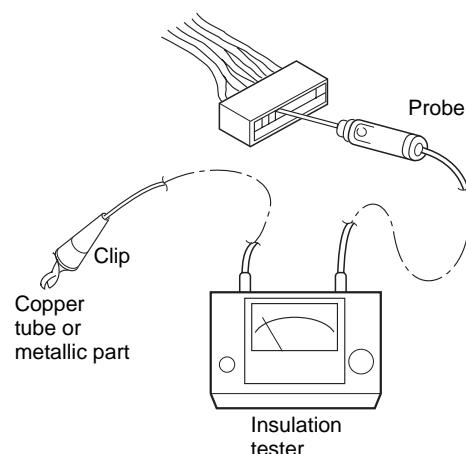

Fig. 27
(2) Measurement of Insulation Resistance for Electrical parts
- Disconnect the connector of the desired electric part from terminal plate, P.C.B. Ass'y, etc. (**Fig. 27**)